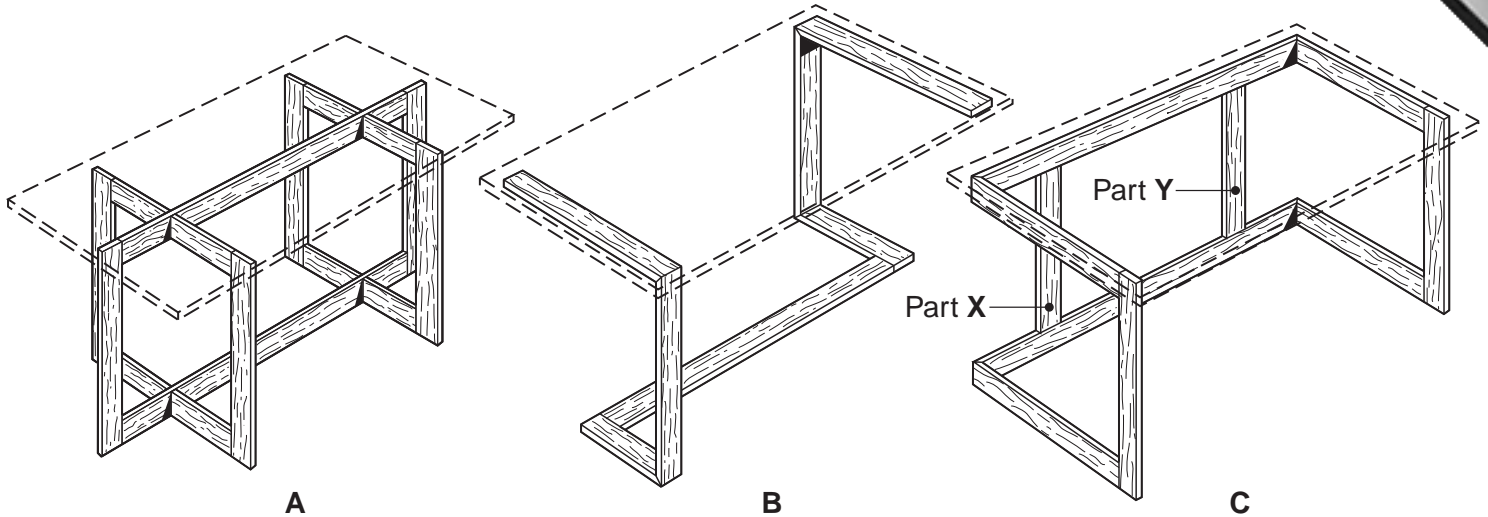

Fig. 4
- 4 Fig. 4 shows a range of frame designs that could be used for an office desk.